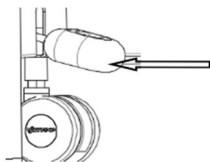

Figure 1 Foot pedal position
- When the casters are on the ground the table is in a moving status.(Figure 1)
- Push the control rod up (it is recommended to use your feet) and the casters are in the retracted status. When the casters are retracted the table is in a fixed position.(Figure 1)